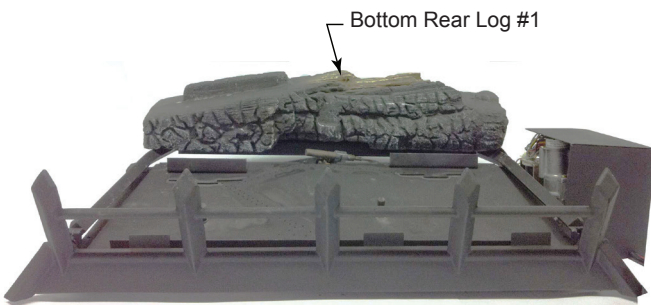

Figure 6.18 - Log #1 Placement
- Place bottom log (#1) on two (2) pins on rear of grate assembly and push towards rear as far as possible. See Figure 6.18.